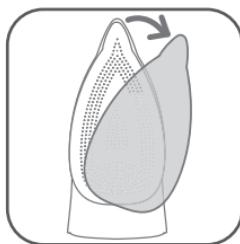

fig. 1
**IMPORTANT** Before doing anything else, remove the soleplate protector (fig.1)!